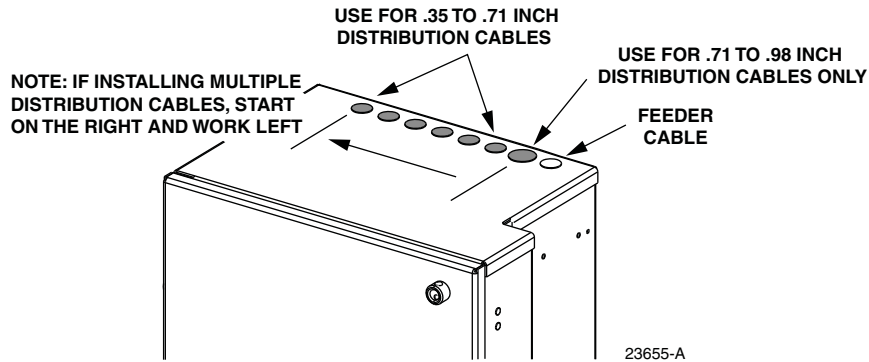

Figure 44. Cable Entry/Exit Holes
1. Locate the next available distribution cable entry/exit hole on top of the cabinet as shown in Figure 44.